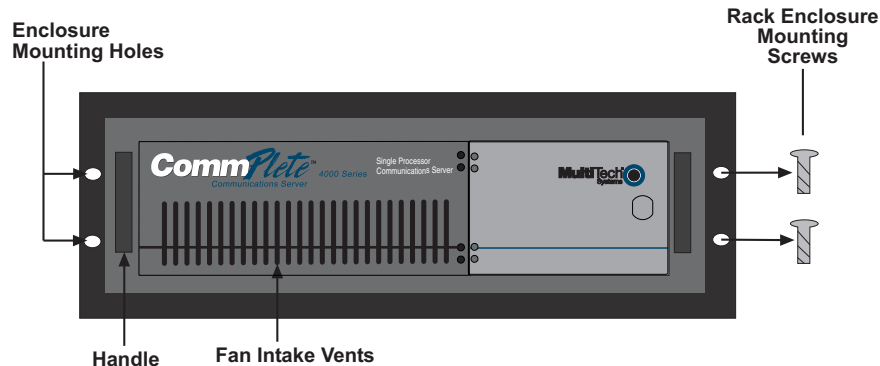

Fig. 4-2. Rack Enclosure Mounting Screws
- 4 Remove the four rack enclosure mounting screws from the front of CommPlete 4000 and remove the CommPlete 4000 from the rack enclosure. See Figure 4-2.